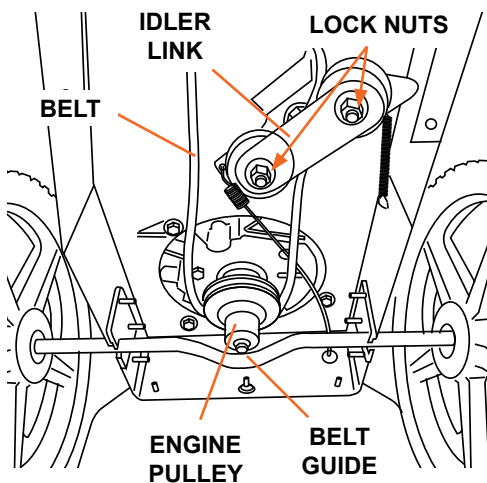

Figure 15
4. Loosen the belt guide locknut using a 10mm wrench (Figure 15) and rotate the guide out of the way.
9. Install the small spacer and v-groove idler pulley. Position the idler link over the idlers and secure with the two locknuts using a 13mm wrench (Figure 15).